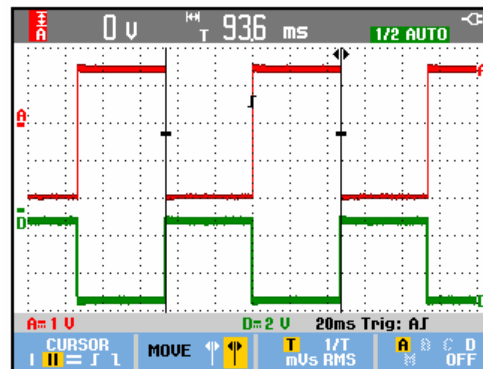

Figure 26. Time Measurement with Cursors
- The screen shows the time difference between the cursors and the voltage difference between the two markers. (See Figure 26.)